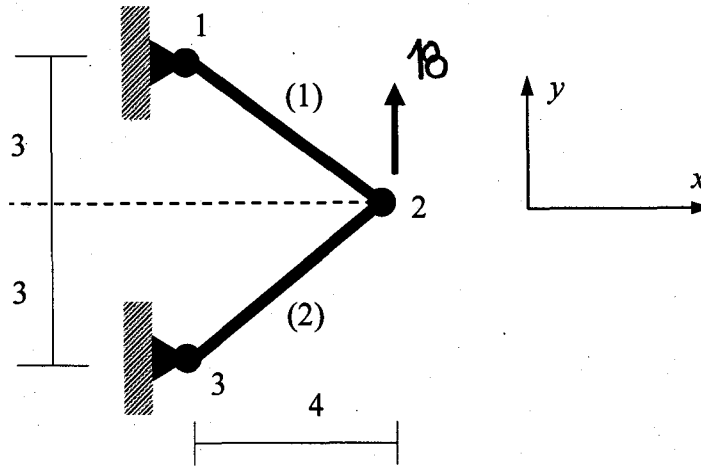

Figure 3
- Compute the axial force in element (1) from the computed nodal displacements.
- Show that an antisymmetry line can be identified to reduce the model of Figure 3 to just one member (pick any), and compute the displacement of node 2 using this reduced model.